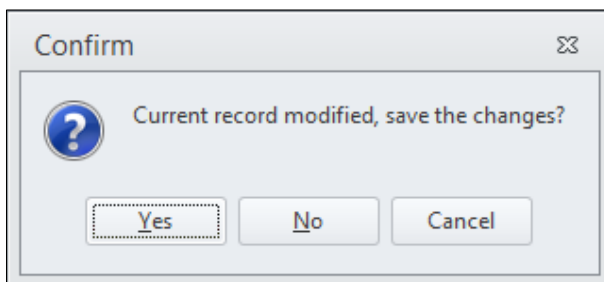

Figure 74 Link class tax modification
- 4) Close the Tax by Link class table by clicking on the “X” icon in the top right corner and click “Yes” to the question, see Figure 74.